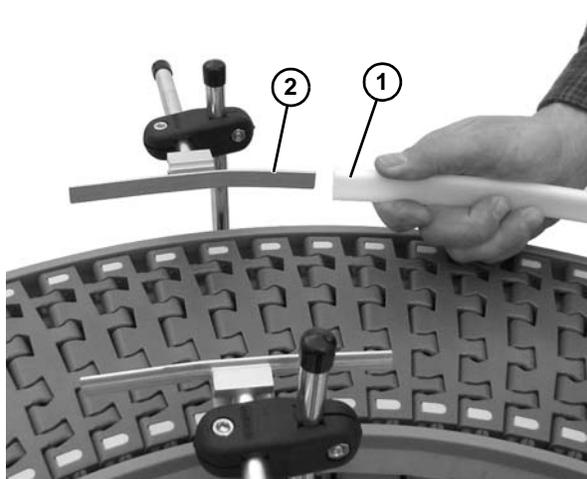

**Figure 34**
1. Insert drop-in tee bars (**Figure 34, item 1**) into the conveyors t-slot (**Figure 34, item 2**), if applicable, and attach fully adjustable brackets (**Figure 34, item 3**). Evenly space along length of conveyor.